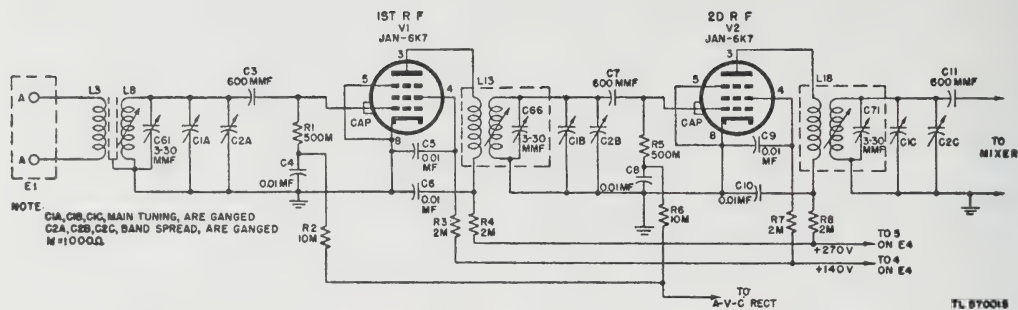
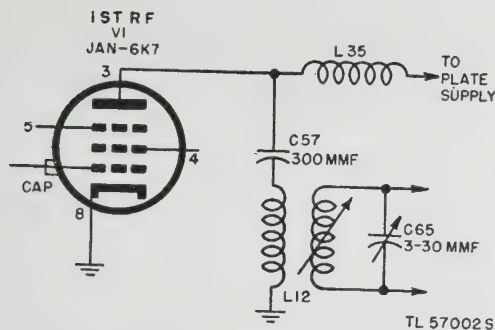

Figure 25. Radio Receiver BC-779-B, functional diagram of r-f amplifier.
Figure 26. Radio Receiver BC-794-B, functional diagram of 1st r-f stage.
59. R-F Amplifier (fig. 25)
For simplicity, only the circuits for the 2.5- to 5.0-mc band are shown and the band switching arrangement is omitted from figure 25. The band switching circuits are discussed in paragraph 68.
c. DIFFERENCES IN R-F CIRCUITS. (1) *Plate supply.* In Radio Receivers BC-779-(*), BC-1004-(*), and R-129/U, plate voltage is series-fed through resistance-capacitance (R-C) decoupling circuits and the r-f transformer primaries (fig. 25). In Radio Receiver BC-794-(*) plate voltage is shunt-fed by means of choke L35 and 300-mmF capacitor C57 in the first stage, and choke L36 and 300-mmF capacitor C58 in the second stage (figs. 26 and 57). This method was chosen to keep plate voltage off the tuned impedance interstage coupling circuits L49, C99, and L50, C100, of the 20-40-mc band. Decoupling filters R4, C6, and R8, C10, are not included.